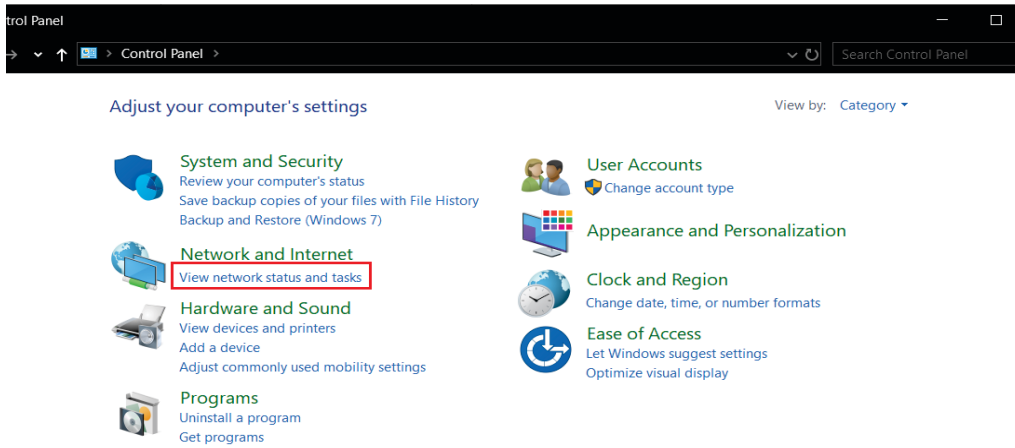

Figure 6. Opening the View network status and tasks menu.
2. Click **View network status and tasks** under the **Network and Internet** section (Figure 6, next page).